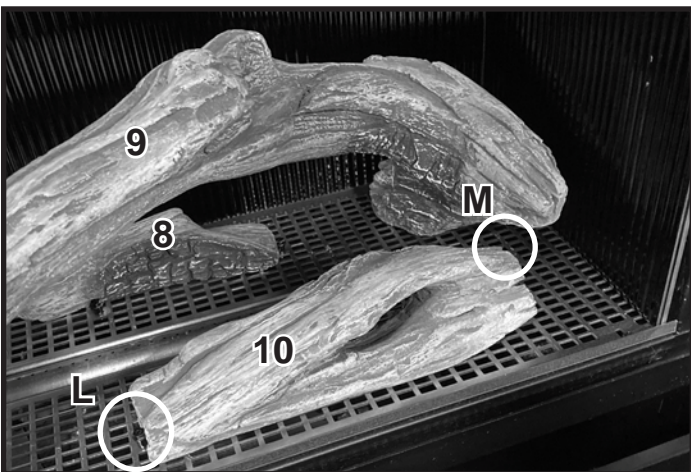

Figure 11 Install Log #10
**Log #10:** Place the left side of Log #10 against the left log pin (L). Pivot the right side of the log backward until it contacts the rear log pin (M). See Figure 11.